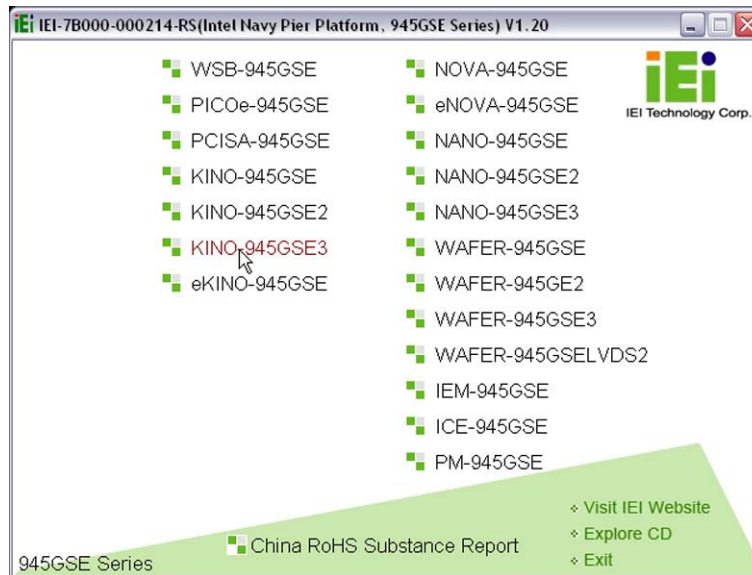

Figure 4-21: Introduction Screen
Step 2: The driver main menu appears (**Figure 4-21**).